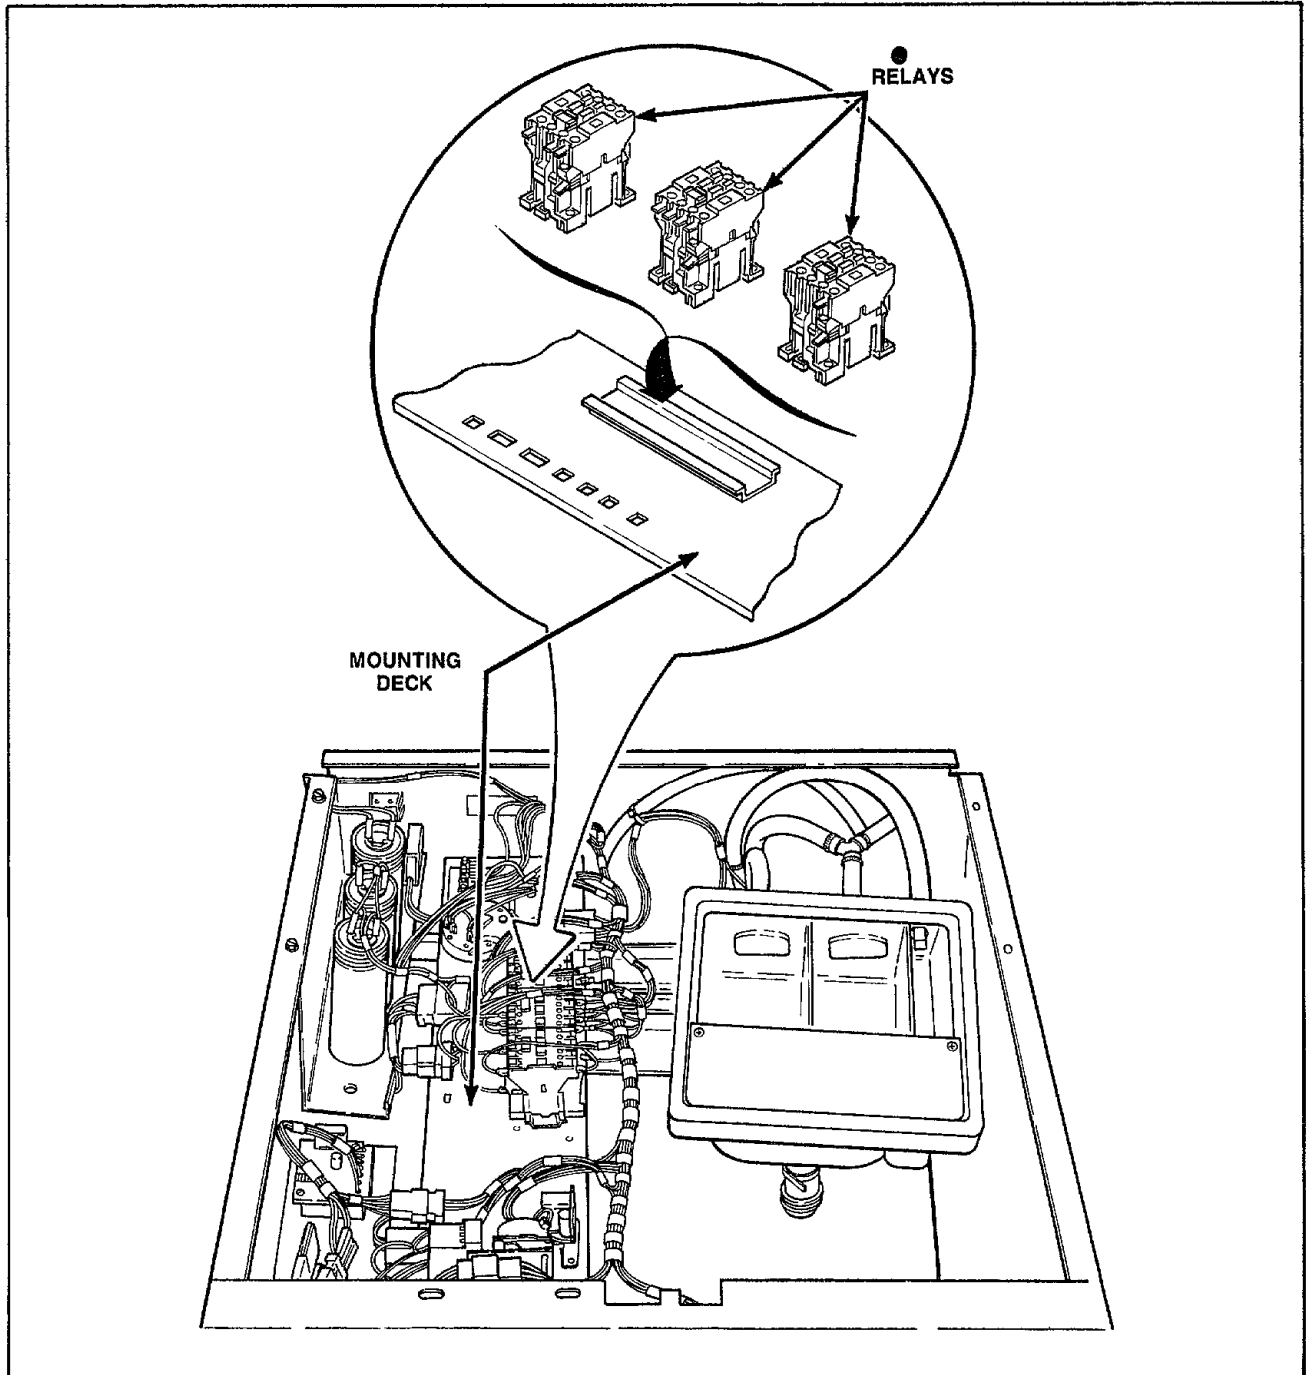

Figure 19
- e. Remove the relay from the mounting deck by snapping the relay on and off the rail, *Figure 19*.